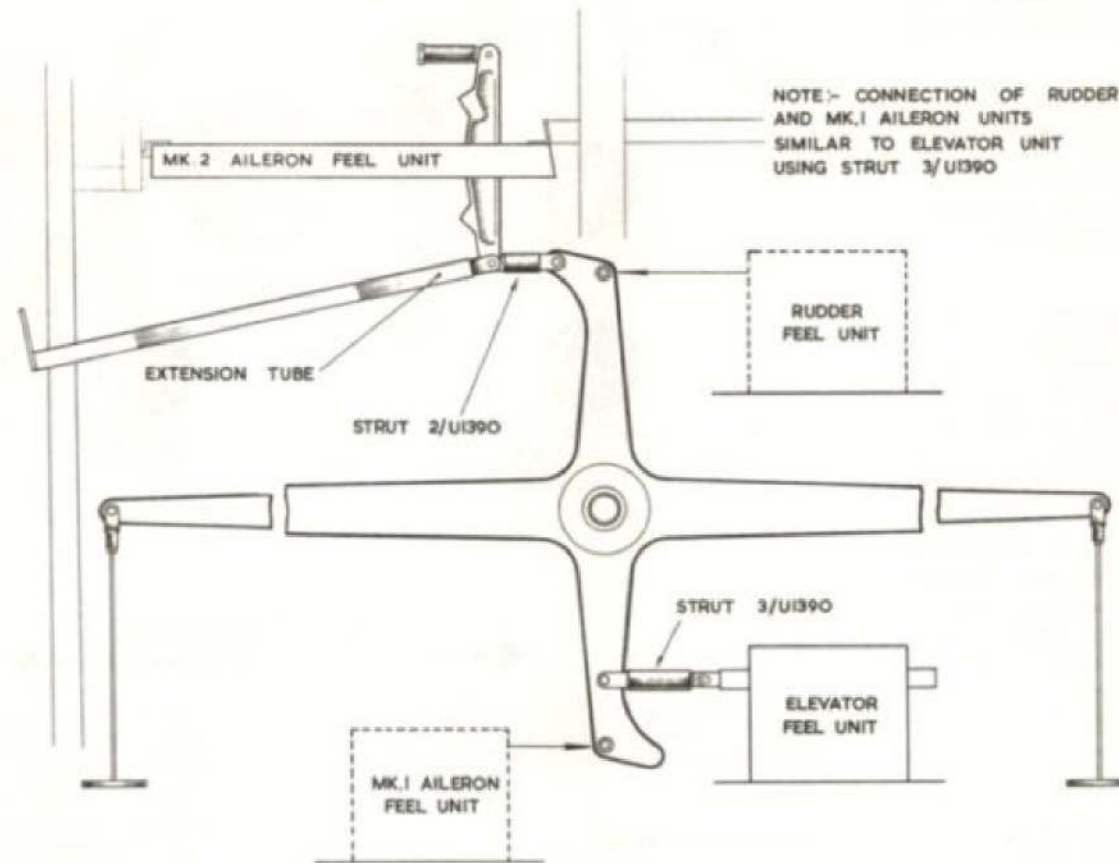

Fig.2. Arrangement and connection of feel units
ted by bosses on a central shaft which pivots in the bearings in the calibrator framework. Two vertical lugs welded one either side of the beam centre are each fitted with two ball bearings to provide alternative connecting points for the respective feel units. To link the feel units to the balance arm, two connecting struts are provided, the shorter, item 2/U1390 being used for Mk.2 aileron units, and item 3/U1390 for all other units (fig.2). The location of the bearings in the balance arm and the length of the connecting struts ensures that when a feel
- (1) Position the feel unit on the appropriate mounting and firmly secure the spring loaded fasteners.
- (2) Check that the balance arm pivots freely. Couple the feel unit shaft to the corresponding bearing on the balance arm as shown in fig.2 using the connecting strut 3/U1390.
- (3) Make the following electrical connections:-